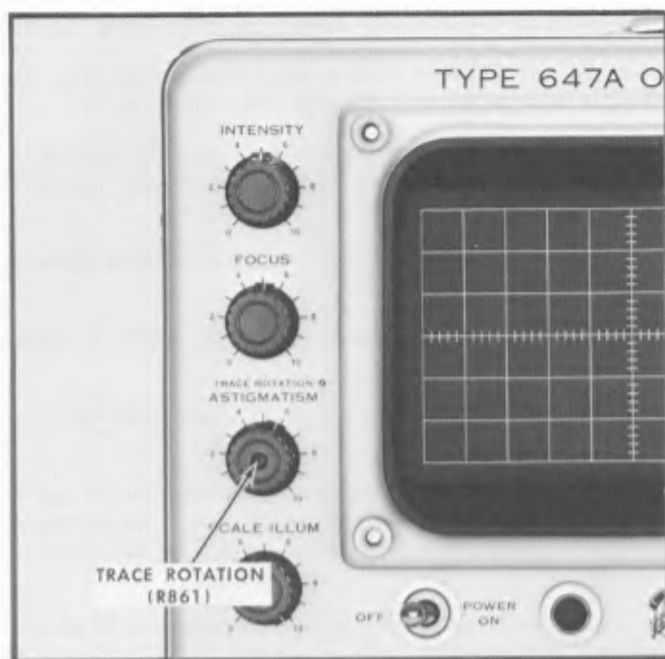

Fig. 6-11. Location of TRACE ROTATION control, R861.
- h. **ADJUST**—**TRACE ROTATION** control, R861 (see Fig. 6-11), so the trace is parallel to the horizontal graticule line.